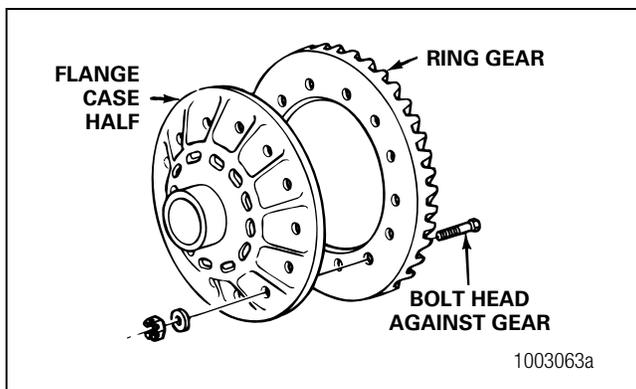

Figure 5.13
- Install the bolts, nuts and washers that secure the ring gear to the flange case half. Install the bolts from the gear side of the assembly. The bolt heads must be against the ring gear. Figure 5.13.